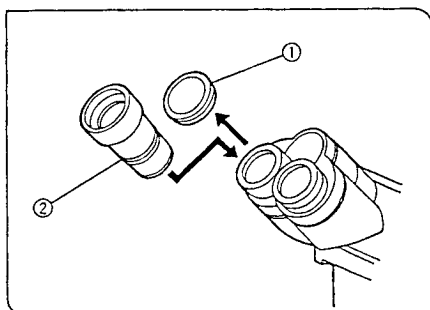

Fig. 17
**12** Mounting the Eyepieces (Figs. 17, 18)
1. Remove the eyepiece dust caps ①.
2. Insert the eyepieces ② into the eyepiece sleeves as far as they will go. (Fig. 17)